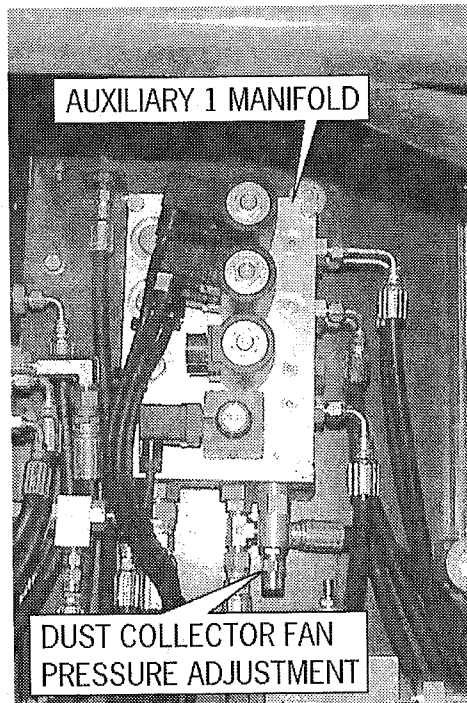

Fig. 7-14 Auxiliary 1 Manifold (mounted on right side of hydraulic tank).
1. Install a 3000 psi (207 bar) gauge in the between the dust collector motor and the manifold (fig. 7-14).
3. Adjust fan pressure on Auxiliary 1 Manifold (fig. 7-14) to 1750 PSI (121 bar). **DO NOT EXCEED 3400 RPM on fan motor!**
9. Adjust Hydraulic Fluid Flow to obtain a reading of 17-18" (43-46 cm) of water. The flow is adjusted by turning the flow control adjustment in fig. 7-14.